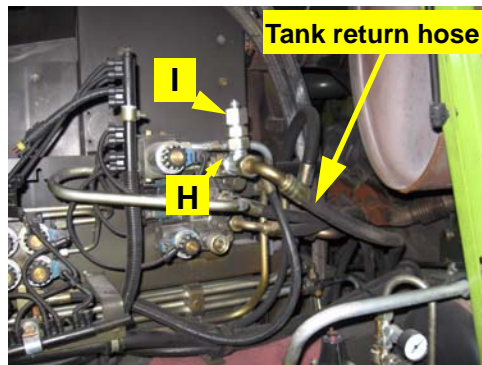

Figure 3b: Installed tank fitting
- b. Disconnect the rubber tank return hose from the circulation shut-off valve. Install run-tee fitting **H** and reducer fitting **I** onto the disconnected tank return hose and circulation shut-off valve (Figure 3b).